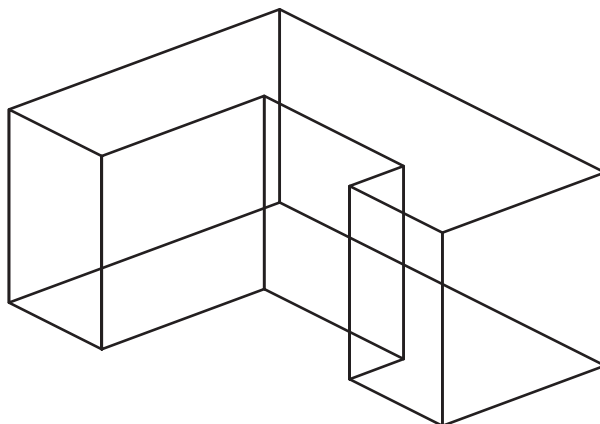

Fig. 26-6
2. Using viewports in paper space, create the top, front, right side, and SE isometric view of the security clip shown in Fig. 26-6. Create a border and title block, and plot the multiple views on a single sheet.